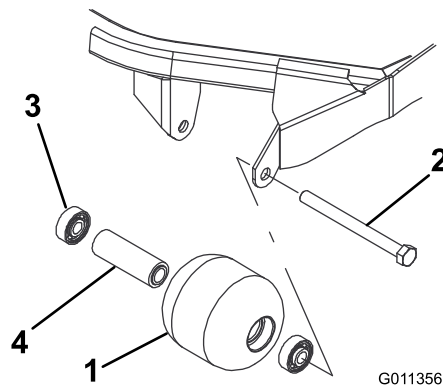

Figure 73
1. Remove the roller-mounting bolt (Figure 73).
4. Inspect the roller housing, bearings, and bearing spacer for damage (Figure 73). Replace damaged components and assemble.
1. Press the first bearing into the roller housing (Figure 73). Press on the outer race only or equally on the inner and outer race.
2. Insert the spacer (Figure 73).
3. Press the second bearing into the roller housing (Figure 73). Pressing equally on the inner and outer race until the inner race comes in contact with the spacer.